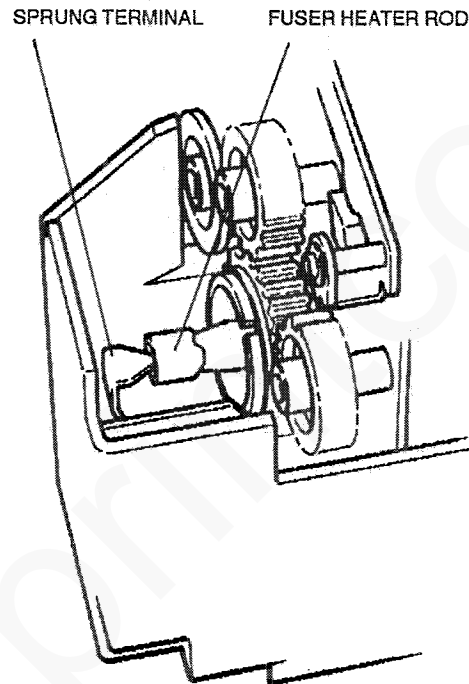

Figure 2. Fuser heater rod location
2. (Figure 2) Carefully locate the end of the fuser heater rod on the sprung terminal in the fuser cover; reinstall the sprung metal fuser rod securing clip.